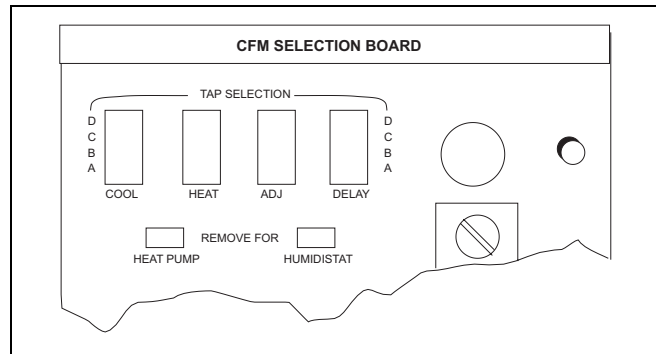

FIGURE 6: CFM Selection Board
2. Remove the screws at the bottom of the corner cover. Slide corner cover down and remove from unit. See Figure 6.
4. Remove the service access panel to gain access to the unit wiring. Route wires from disconnect through power wiring opening provided and into the unit control box as shown in Figure 6.
1. Route low voltage wiring into bottom of control box as shown in Figure 6. Make low voltage wiring connection inside jumper box per Figures 7-11.